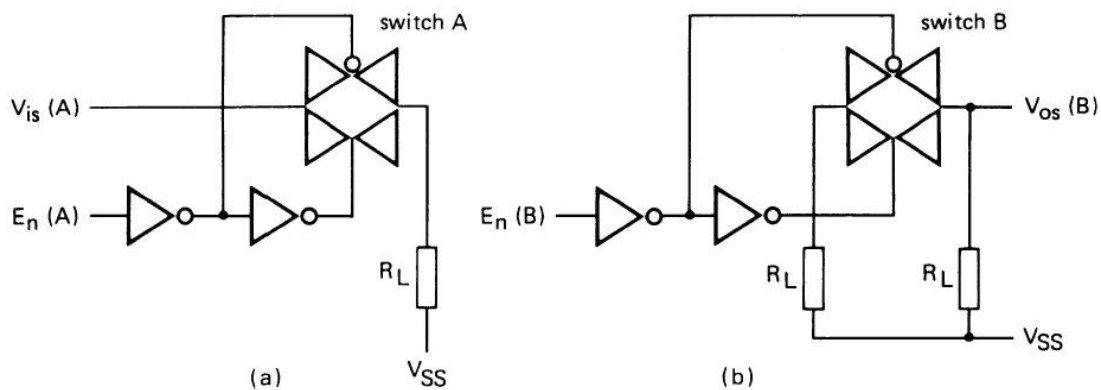

图 8
$20\log (V_{OS} (B) / V_{IS} (A)) = -50\text{dB}$; $E_n (A) = V_{SS}$; $E_n (B) = V_{DD}$; 见图8;